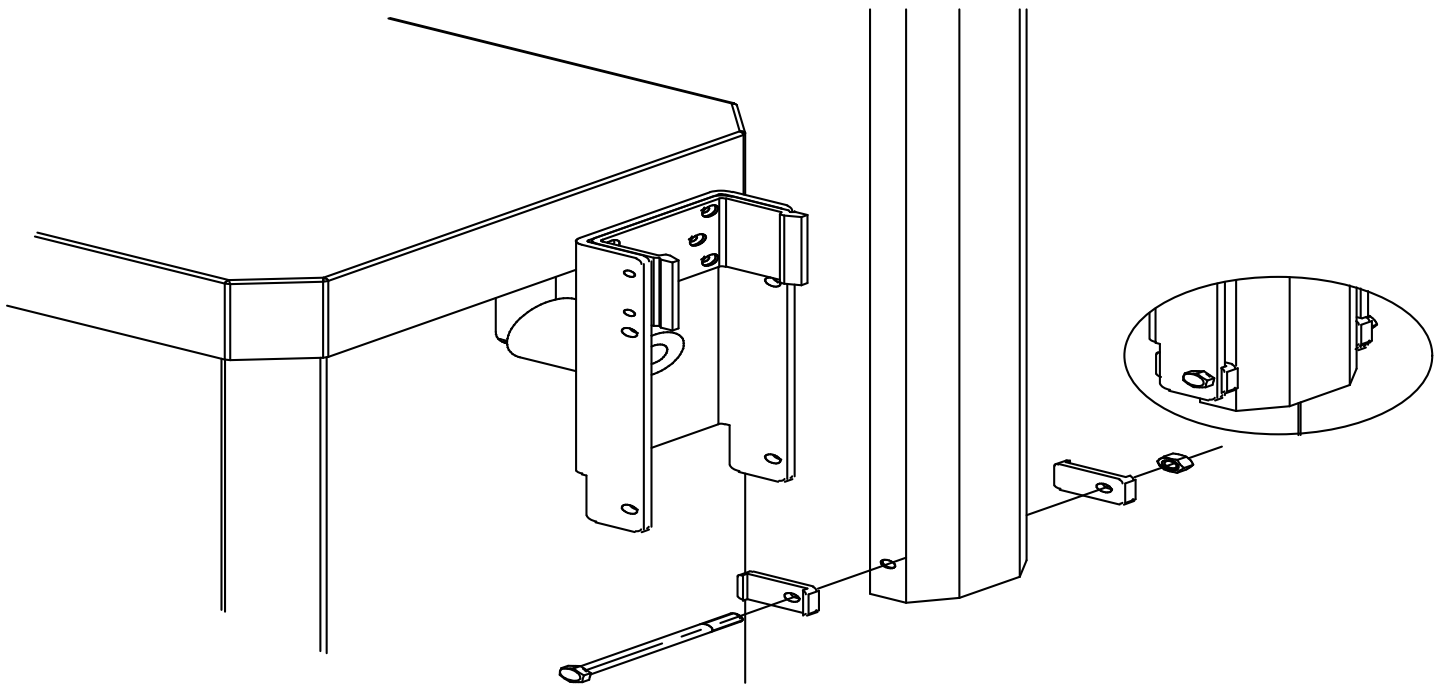

FIG. 3
Position of the induction coil: Generally, the induction coil size would be 2m(L) x 1m(W), its central axis should be right under the barrier boom, please refer to the figure 3.